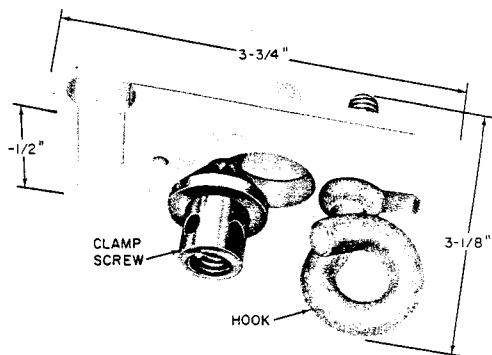

**Fig. 22—Spans to Drive Hooks on Pole**
- 6.05** The following procedure should be used to obtain maximum separation between the drop wire and cable (Fig. 22):